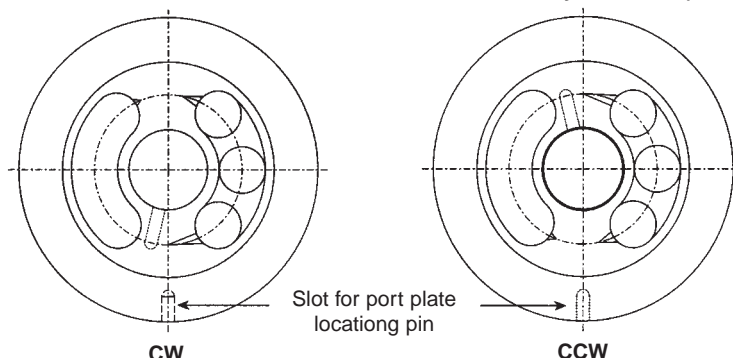
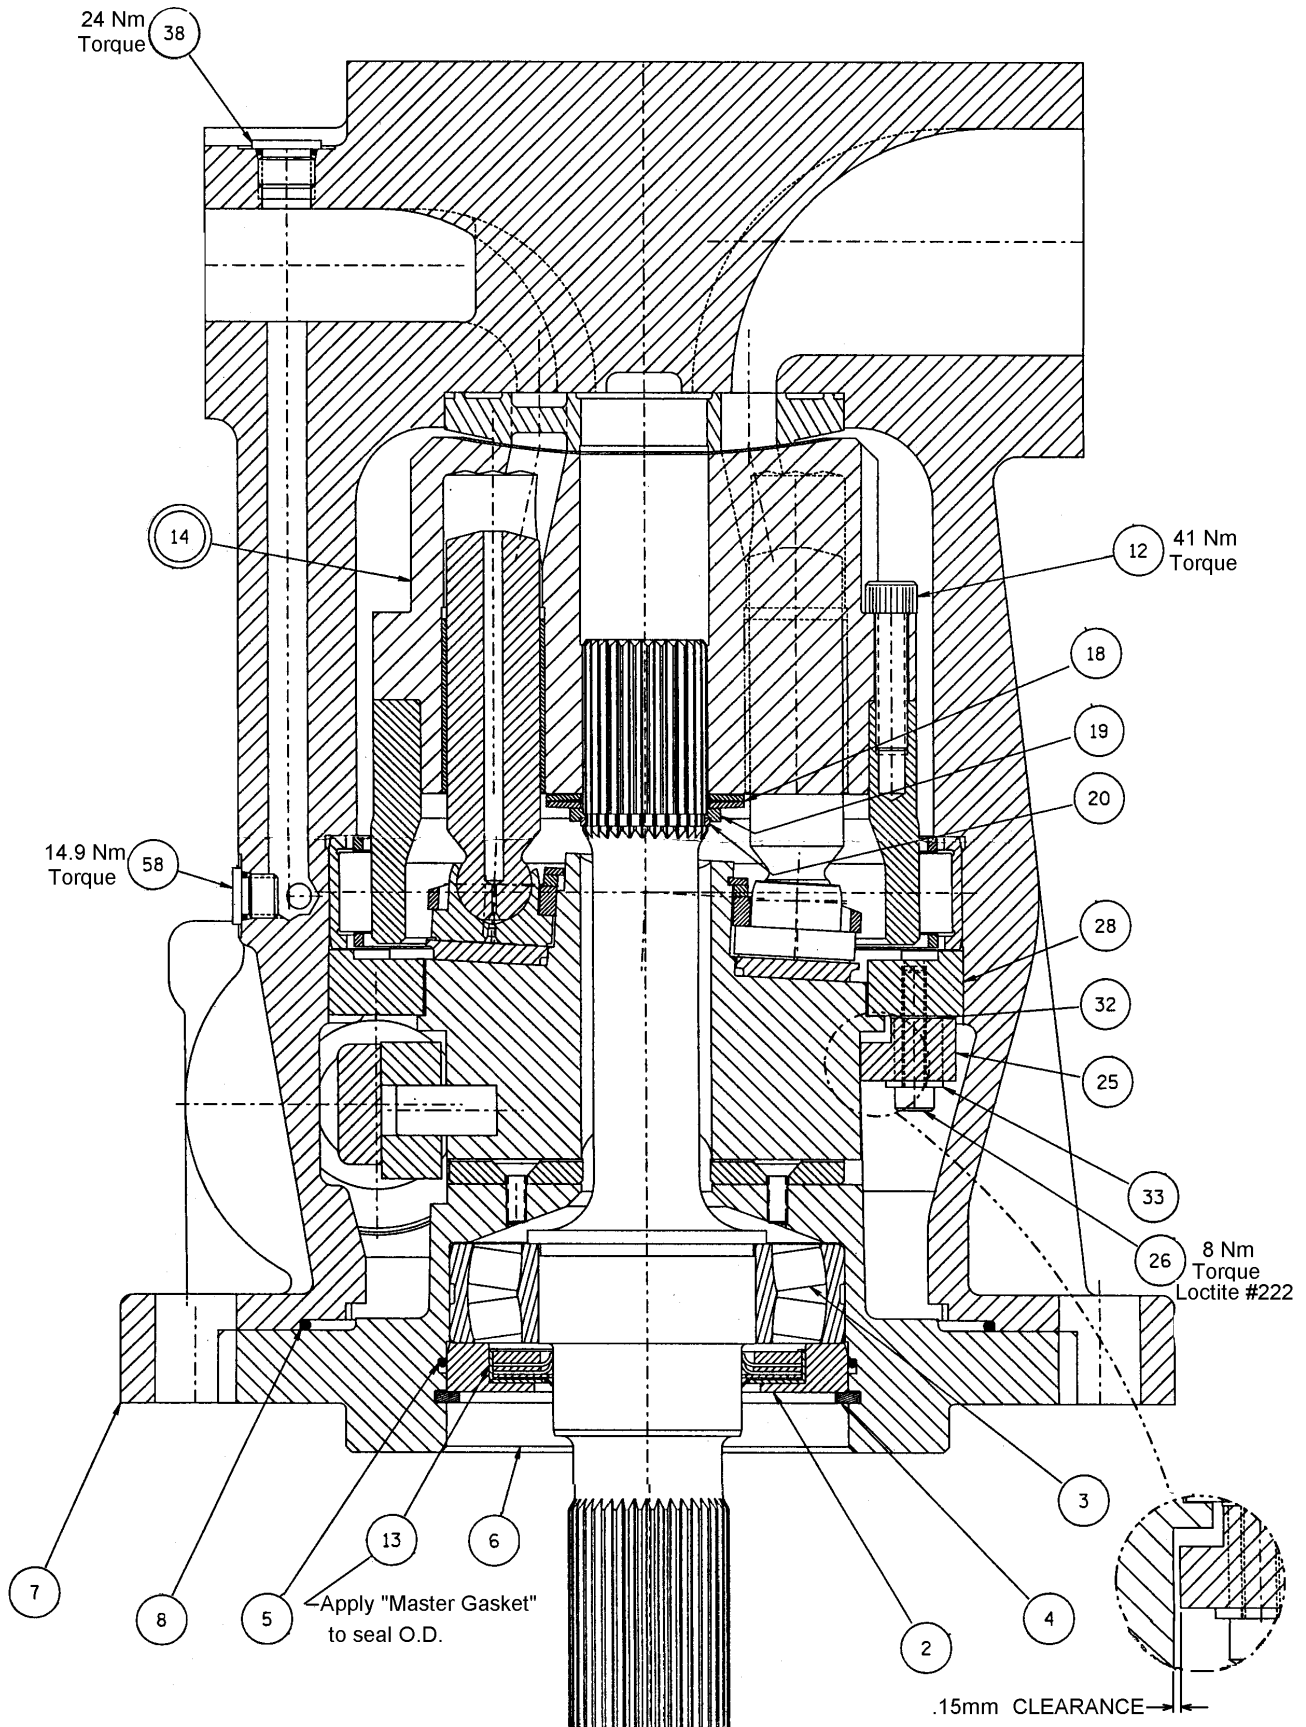

FIGURE 2
FIGURE 3
See Figure 3. Remove two screws (26), two washers (33), clearance bearing (25), and two washers (32) from cam/bearing retainer (28).
See Figure 3. Remove port plate (14-2) from port block.
See figure 3. Press worn or damaged seal from seal retainer.
Refer to Figures 3 through 7: Place the smaller port block end of the housing (7) on a suitable surface capable of supporting the pump weight of 71 Kgs. Install plugs (38) with "O" rings into port block. Torque to 24 Nm. Install plugs (58) with "O" rings into port block. Torque to 24 Nm.
See Figure 3. Install port plate (14-2) on port block, engaging pin (16). Insure that correct barrel and port plate assembly is being used for shaft rotation specified. **See Figure 2.**
Press outer race of barrel bearing (11) into housing (7) figure 3. The race may also be installed by tapping into position with a brass rod. Care must be taken to tap only the race and not the rollers or roller retainer. **See Figure 8.** Assemble inner bearing race (11) to barrel and sleeve assembly (14-1).
See Figures 3 and 5. Install "O" rings (27) to cam/bearing retainers (28). Assemble cam/bearing retainers to housing. Secure to housing with screws (34) using Loctite® #242. Torque to 9,5 Nm.
Place Belleville washers (18) on barrel as shown in Figure 3. They must be assembled exactly as shown to obtain correct barrel holddown force and insure proper pump operation. Place barrel stop (19) on Belleville washers as shown in Figure 3. Center the washers and the stop on barrel.
See Figure 3. Center Belleville washers and barrel stop. Lower rocker cradle assembly into pump housing with the step in the rocker cradle correctly positioned so that clearance is provided for slide link (40). The M12-1,5 threaded hole in the end of the shaft should be used to support the assembly. The shaft spline must first engage the splined barrel stop (19). It must then pass Belleville washers (18) and then engage the barrel spline. The assembly will then come to rest on the rocker cam.